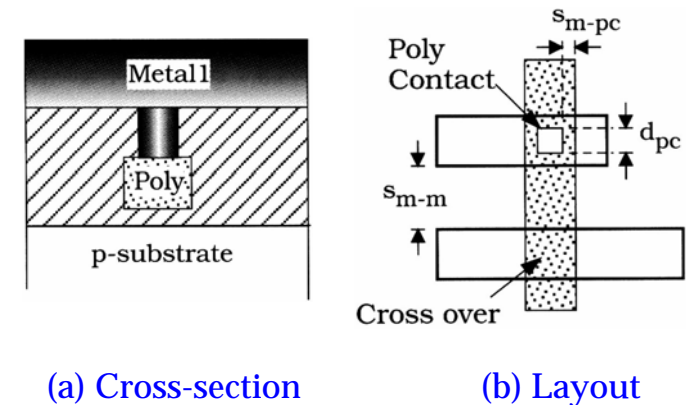

Figure 5.16 Poly Contact
- ❑ A Poly Contact mask is used to allow electrical connections between Metal1 and the polysilicon gate as Figure 5.16